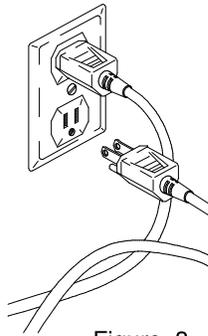

Figure 8
14. Plug the power unit(s) into a dedicated grounded electrical outlet(s). (Figure 8)